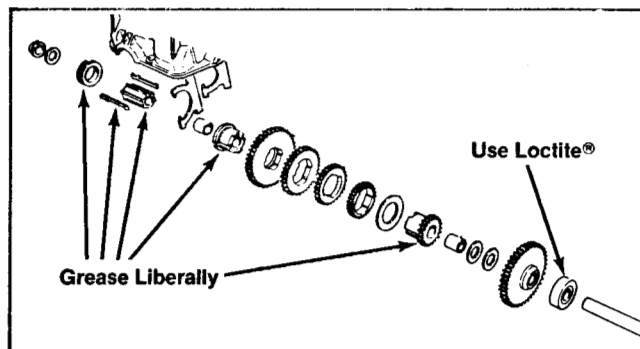

Figure 83
9. **Output Shaft:** See Figure 83.
12. Slide the four selectable gears onto the output shaft as shown in Figure 83 above.